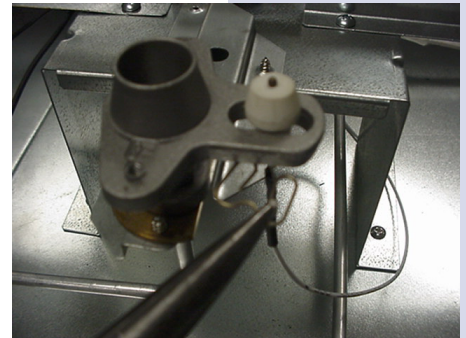

Figure 8
3. To remove the igniter, unclip the retainer and pull up the igniter. (Figure 8)